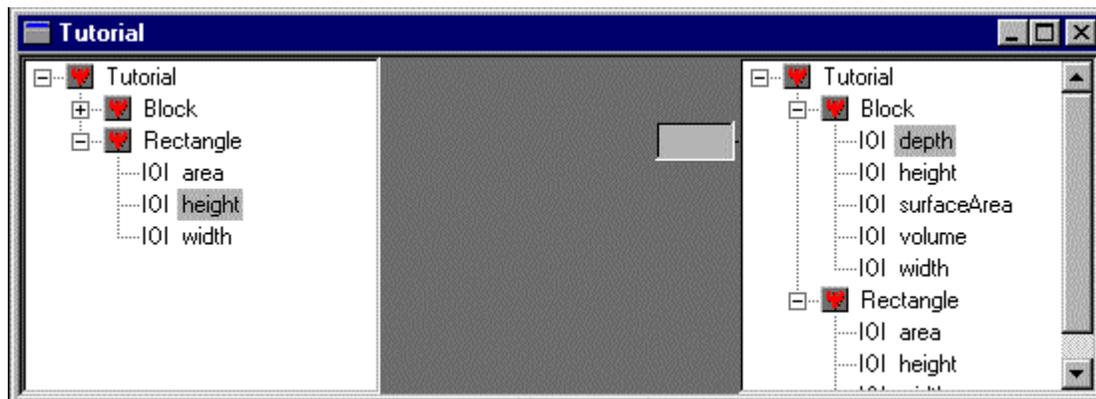

Figure 20. The Link Editor displayed with the components ready to be linked
- In the left pane of the **Link Editor**, select **height** (under Rectangle) and drag it to **depth** (under Block) in the right pane of the Link Editor. Figure 20 indicates the variables to link.